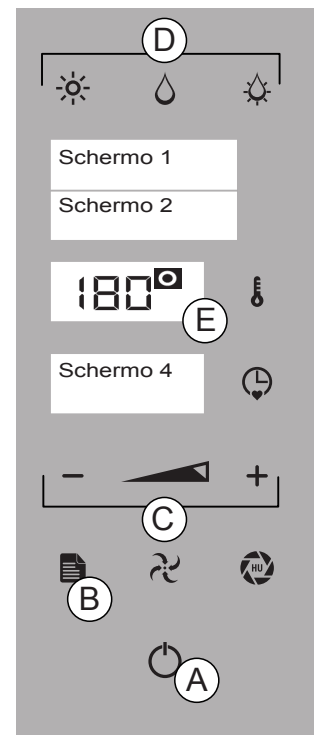

Fig.1
GAS BURNER ON /°C flashing-GAS BURNER OFF /°C fixed (Fig. 1/E- Screen 3)
Press the "ENTER" button (Fig 1/A) and proceed to manual cooking (see 6.1) or press the "MENU" key (Fig 1/B) to activate the main menu (Fig 6.1/B). Use the "MINUS" and "PLUS" keys to select the desired function (Fig 1/C). Press "ENTER" to confirm.
1. In main menu mode, press the "MINUS" or "PLUS" (Fig. 1/C) to the "OFF" function (Display 1). Press "ENTER" (Fig 1/A) TO CONFIRM.
2. In function mode, press the "ENTER" button to stop the operation, press "MENU" button (Fig. 1/B) and press the "MINUS" button (Fig. 1/C) to display the "OFF" function (Display 1). Press "ENTER" button (Fig. 1/A-see 3.3 Description of operating modes).
To set the date and time, press for 3 seconds the "TIME" and "TEMPERATURE" keys (Fig 1/D+E)
Use the "MINUS" and "PLUS" keys (Fig 1/B) select the current year and press the "ENTER" KEY (Fig 1/A) TO CONFIRM.